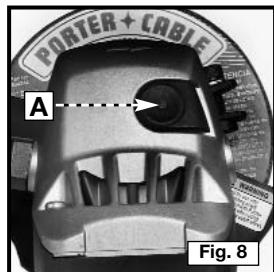
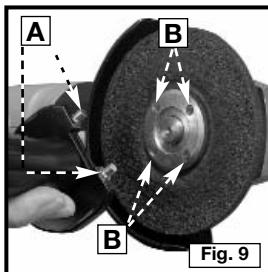
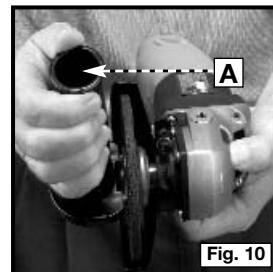

Fig. 8
Fig. 9
Fig. 10
5. Press and hold the spindle lock pin (A) Fig. 8, while rotating the grinding wheel clockwise by hand until the spindle lock engages.
6. Continue holding the spindle lock pin (A) Fig. 8 down while placing the lugs of the handle/spanner wrench (A) Fig. 9 in two of the holes of the outer flange (B) Fig. 9. Tighten securely by turning clockwise (Fig. 10).